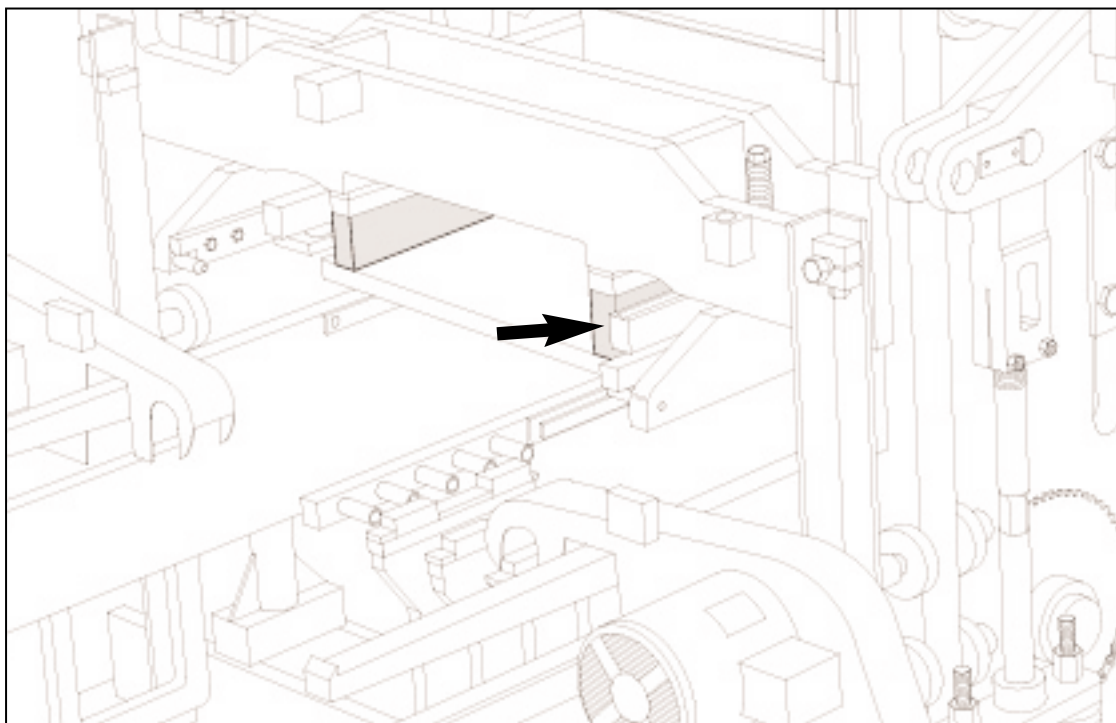

Figure 4.46 95mm [3 3/4"] BLOCKING UNDER STRIPPER HEAD FRAME.
- 4.3.9 The ULTRAPAC II is now ready for the installation of the mold assembly. Follow the directions for installing an attachment in section 5 of this manual. When installing the stripper head, use **356mm [14"]** long bolts (**part #087159**) and insert **95mm [3 3/4"]** of blocking in addition to the **38mm [1 1/2"]** blocks already affixed to the stripper head frame (figure 4.46).